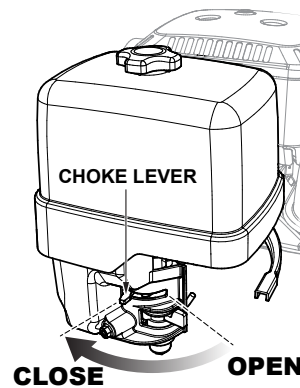

Figure 8. Engine Choke Lever (Closed)
4. Place the choke lever in the **CLOSED** position (Figure 8) if starting a cold engine.